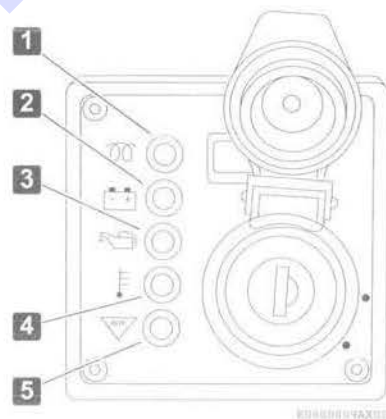

Figure 8
Figure 8 shows an indicator arrangement with the specification for ON-glow. As you turn the key switch to ON position, the HEAT indicator is turned on for 4 seconds. When the indicator goes off, turn the key switch to the START position and start the engine. In the case of 3TNV88F (DI), the indicator goes off after 15 seconds.